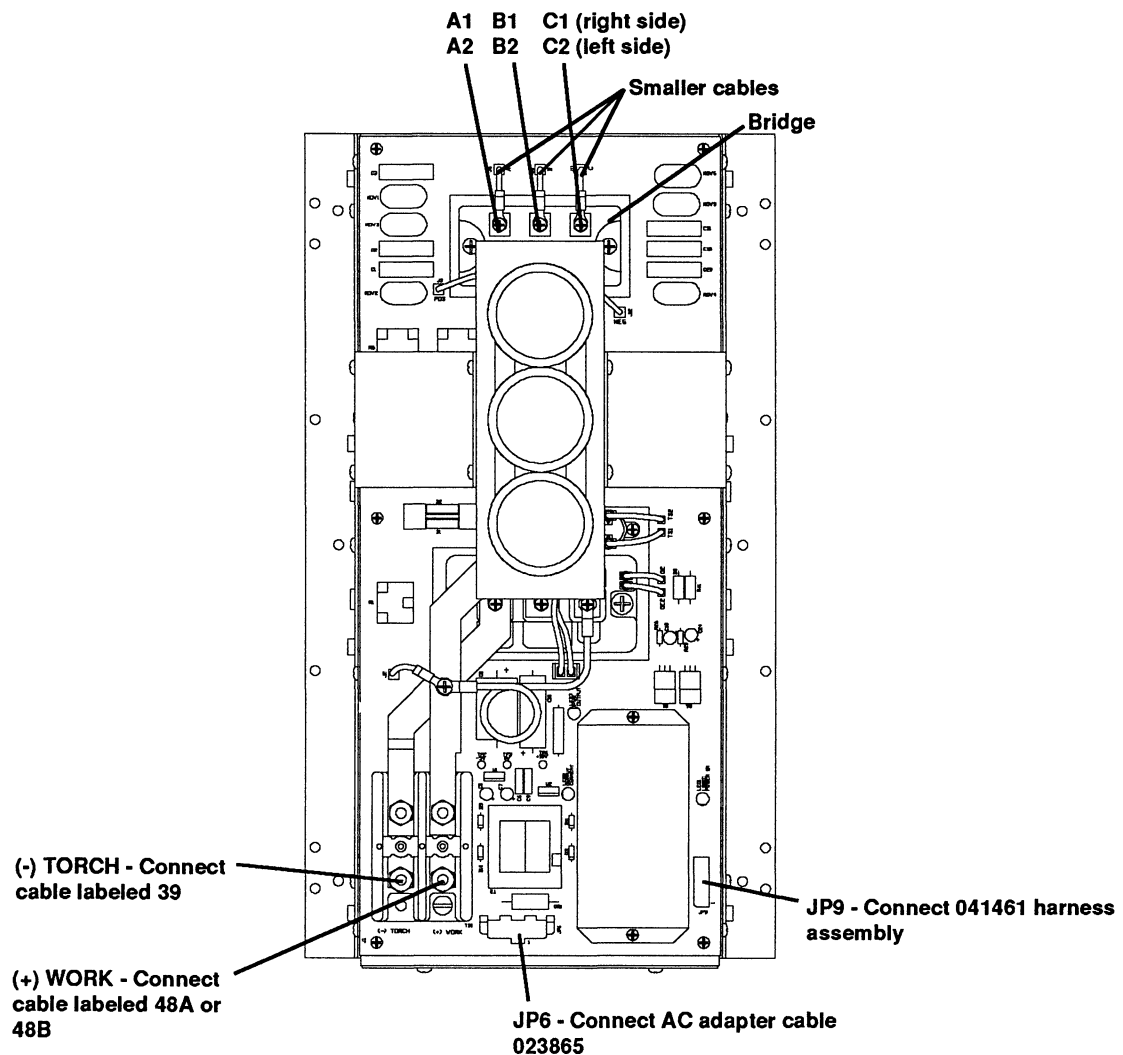

Figure 1-4 - CH130 Chopper Assembly
2. Position the chopper(s) with large capacitors up as in Fig. 1-4 and line up mounting holes from the new chopper assembly to the lower four chopper mounting studs. Screw on the nuts to secure the new chopper in place. On older MAX200s line up mounting holes from the new chopper assembly to the lower four chopper mounting holes. Secure the new chopper in place with screws. Note: The chopper mounting brackets are universal, make sure the brackets are mounted as shown in Fig. 1-4. If not, remove the six screws (three each side and remount the brackets as shown in Fig. 1-4.
3. Remove smaller cables from chopper to bridge and connect three-phase input cables labeled A1, B1 and C1 (right side) or A2, B2, C2 (left side) to the bridge of the new chopper. Replace smaller cables from chopper on top of three-phase input cables and screw down. See Fig.1-4.
4. Connect harness assembly with small PC board (041461) to JP9. See Figs. 1-4 & 1-1.
5. Connect AC adapter cable (023865) to JP6. See Figs. 1-4 & 1-1